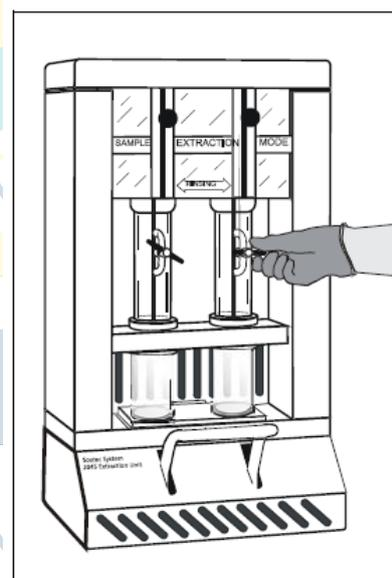

Fig. 5:4
- Boil with the thimbles immersed. (Time depending on the sample and solvent type). Make sure that the condenser valves are open (Fig. 5:4).